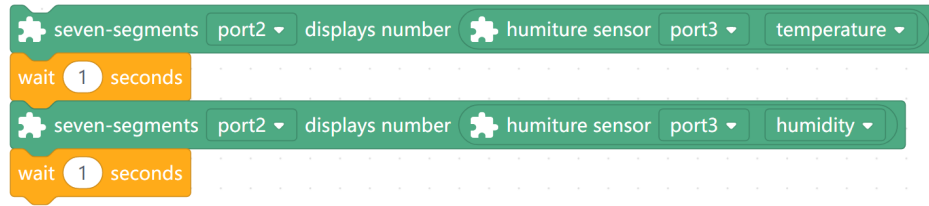

FIGURE 8 Combine "seven-segments" and "wait" blocks. Update the ports to match your robot.
- Drag two "wait" blocks from the Control palette onto the programming area. Connect the "seven-segments" blocks with the "wait" blocks (see Figure 8).
- The first "seven-segments" block should display temperature and the second "seven-segments" block should display humidity. Both blocks are sent to display humidity by default, so all you need to do is change the first block. To do this, click the humidity drop-down menu in the first "seven-segments" block, and select temperature (see Figure 8).
- For both "seven-segments" blocks, update the port selections to match the ports to which the 7-Segment Display and the Temperature and Humidity Sensor are connected. The 7-Segment Display is connected to port 2 and the Temperature and Humidity Sensor is connected to port 3 (see Figure 8).